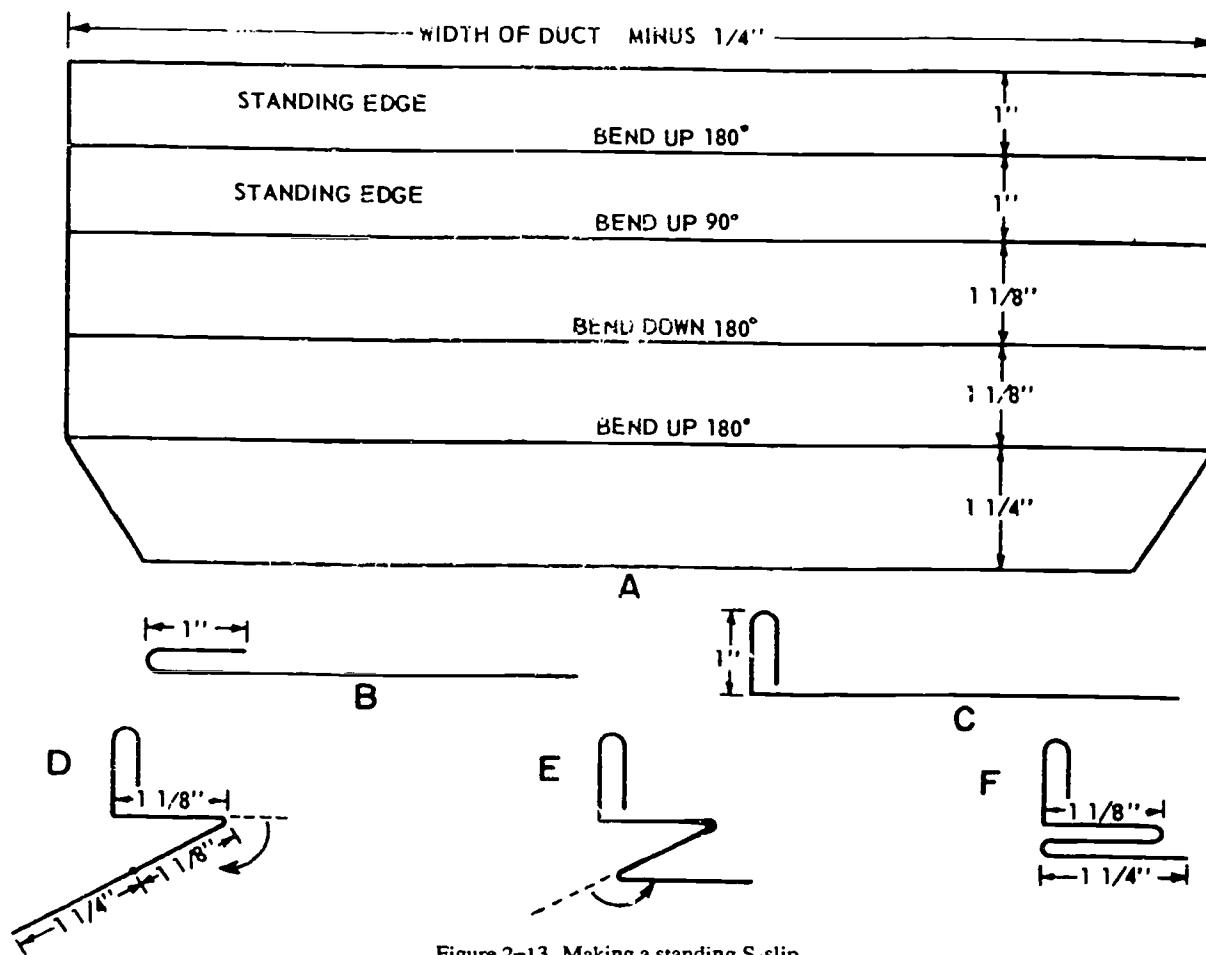

Figure 2-13. Making a standing S-slip.
Fabricating a flat S-slip is not illustrated here, but it is bent (formed) as indicated in D, E, and I of figure 2-13. To make a flat S-slip, the standing edges are omitted from the pattern and steps B and C are not performed. The following paragraphs will clarify this explanation.
Fabricating a standing S-slip is not difficult and is usually done with a cornice brake. The first step is to determine the dimensions and lay out the pattern. The pattern should look like step A in figure 2-13, if you are making standing S-slips with 1 1/8 inches pockets and a 1 inch standing edge. The length of the standing S-slip should be approximately 1/4 inch less than the width of the duct, to give clearance for the corner lock seams. Notice how the 1 1/4 inch portion of the pattern is cut at a 45° angle to make installation easier. For training
purpose, we have included the braking instructions on the pattern, and in steps B through F of figure 2-13, the directions of the bends are indicated.
In step B of figure 2-13, the standing edge is bent 180° at the 1 inch line. Next, in step C, the metal is bent up 90° at the second 1 inch line. In step D, the metal is turned over in the cornice brake, and then bent approximately 150° at the third line between the two 1 inch measurements. In step E, the metal is again turned over in the cornice brake and bent approximately 150° at the fourth line between the 1 - and 1 1/4-inch measurements. In the final step (F), the two 150° bends are flattened with the cornice brake until they are each 180°.